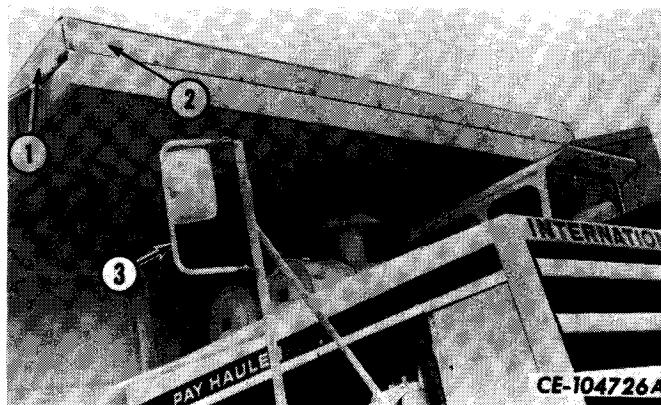
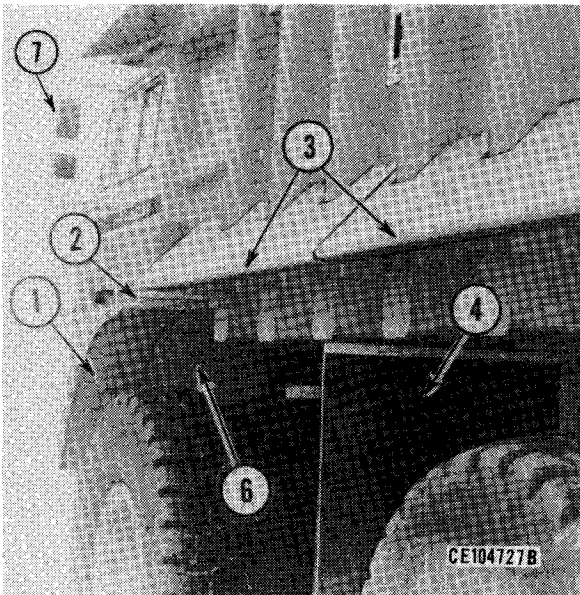

Fig. 3. Canopy Rock Fence and RH Mirror
Fig. 4. Fenders, Mudguards, Extensions and LH Mirror
1. Remove the canopy rock fence channels (1, Fig. 3) and the rock fence angle (2, Fig. 3) to reduce the overall height of the machine.
2. Remove the RH (3, Fig. 3) and LH (7, Fig. 4) rear view mirrors.
3. Remove the body fenders (3, Fig. 4).
4. Remove the rear mud guards (4, Fig. 4).
5. Remove the angles (2, Fig. 4) and the extensions (1, Fig. 4) from both sides of the machine.